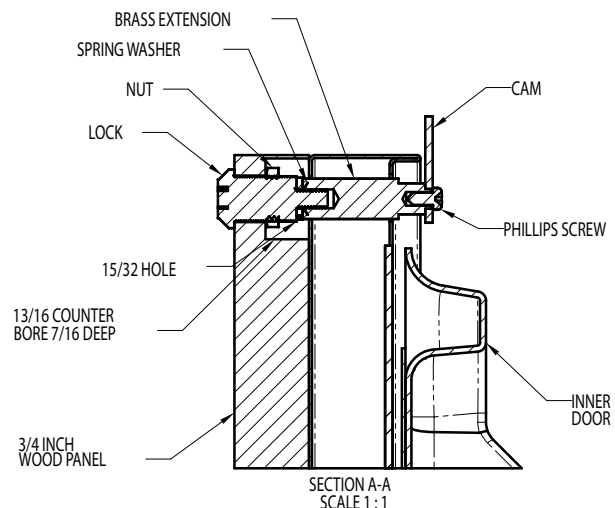

Figure 7
Locate and mark with a pencil the location of the lock hole on the overlay panel, this is the hole in the top corner of the handle side of the door. Remove the clamp and remove the overlay panel from the door. On the backside of the panel where you marked the lock location drill a 13/16" (20.5mm) diameter counter bore 7/16" (11.0mm) deep into the overlay panel. Drill a 15/32" (12.0mm) diameter hole through the overlay panel centered on the counterbore being careful not to splinter the wood on the face side of the panel. (See Figure 7).
Two (2) lock extensions are supplied with the lock. Use the longer extension for a 3/4" thick overlay panel and the shorter one for a 5/8" thick panel. Assemble the lock extension, cam stop washer, spring washer, and set screw to the lock as shown in Figure 7 and 8.